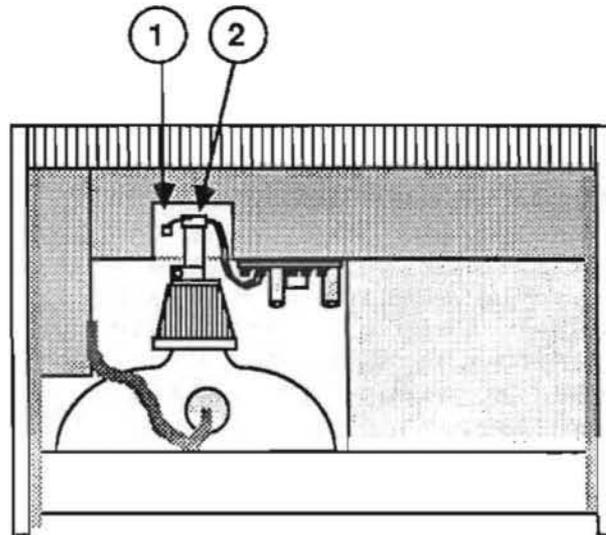

FIGURE 5A
The CRT cup (Figure 5A, #1) is the part of the chassis that surrounds the CRT neck. In the following steps, you will remove the cables, screws, and ground wire that are attached to the CRT cup. The ground wire (the single white wire that runs from the yoke to the contact on the chassis) is difficult to remove safely. You will do that last so that you can orient the CRT cup away from the CRT neck.
- (4.) Remove the round plug from the socket at the end of the CRT neck (Figure 5A, #2). (If the plastic guide comes off the tube with the plug, replace it.)
- (7.) **For unmodified Lisa 2/Macintosh XL (Figure 5A):**